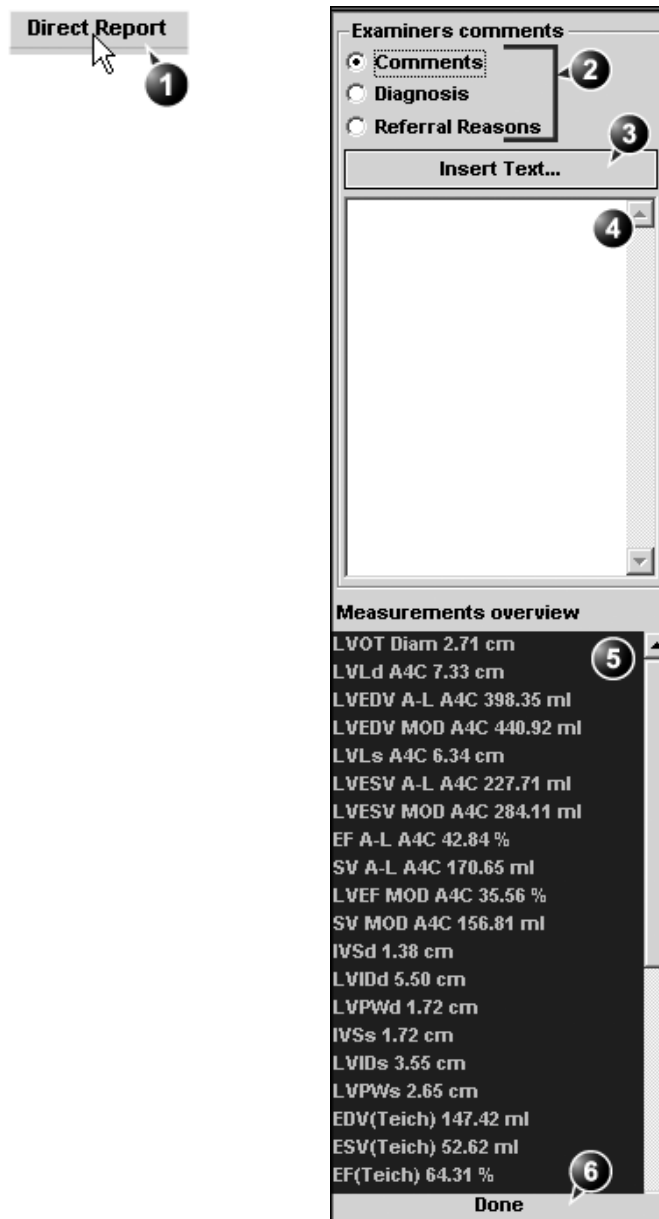

Figure 3-16: The Direct report
1. Press **Direct report** (see Figure 3-16).